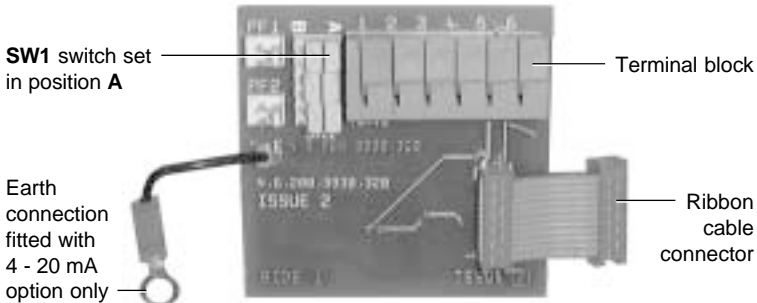

Fig. 1 Options PCB
2.2.1 Firstly set the yellow slide switch as follows (refer to Fig. 1):
If the options PCB is used for software configured travel switches, set all elements of the yellow slide switch **SW1** to position 'A'. Prepare the ribbon cable by ensuring that the connector is at right angles to the options PCB, ready for insertion into the main PCB socket (refer to Fig. 1).